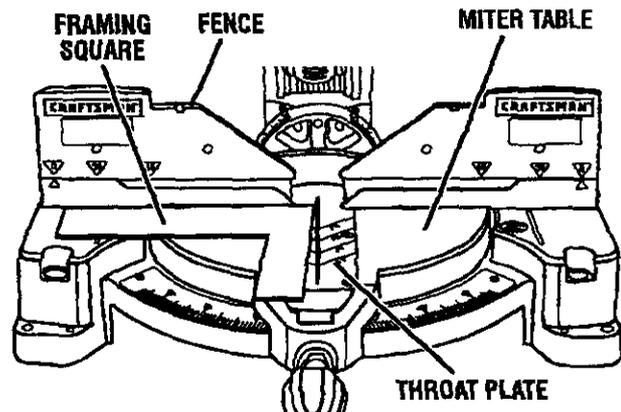

Fig. 22
- If the edge of the framing square and the throat plate in the miter table are not parallel as shown in figures 22 and 23, adjustments are needed.